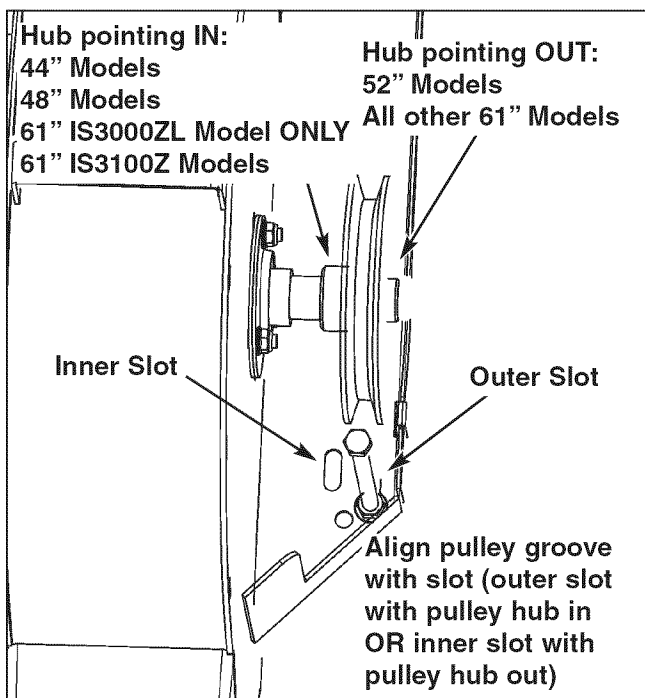

Figure 11. Install Impeller Drive Pulley
6. Install the impeller drive pulley (A, Figure 11) onto the impeller shaft (B) as described in Figure 11. Install the 1/4" x 1-1/2" long key (not shown) in the pulley.
7. Align the pulley groove with the appropriate slot as described in Figure 11. Tighten the set screws in the pulley.